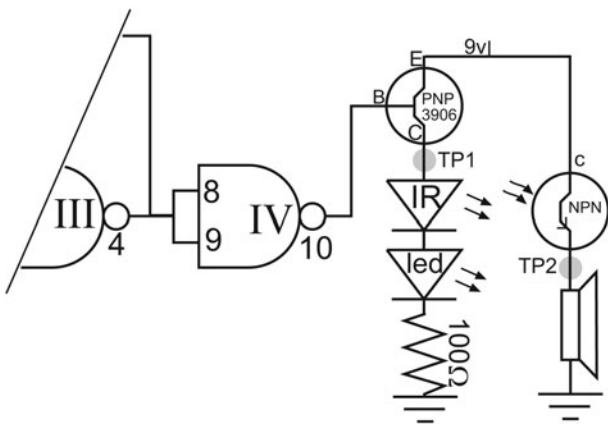

Figure L33-1
Surprisingly simple substitutions are made in Figure L33-1 to change over to the infrared LED. Use the same values for RC2 as you did in Lesson 31, producing a frequency in the 1kHz range, and keep pins 12 and 13 connected directly to ground for an uninterrupted signal.
3. Connect the scope probe to TP1, shown in Figure L33-1.